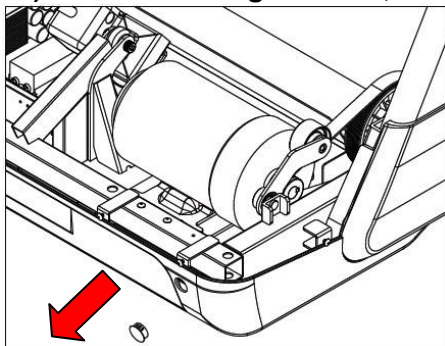

Figure 4.3.2
11) As shown in figure 4.3.2, remove the cover button.